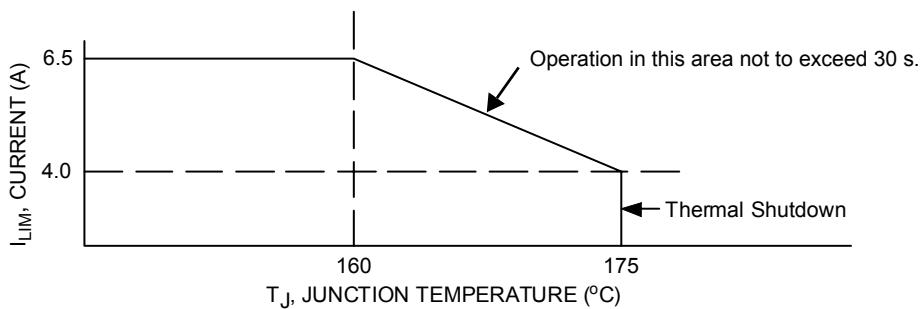
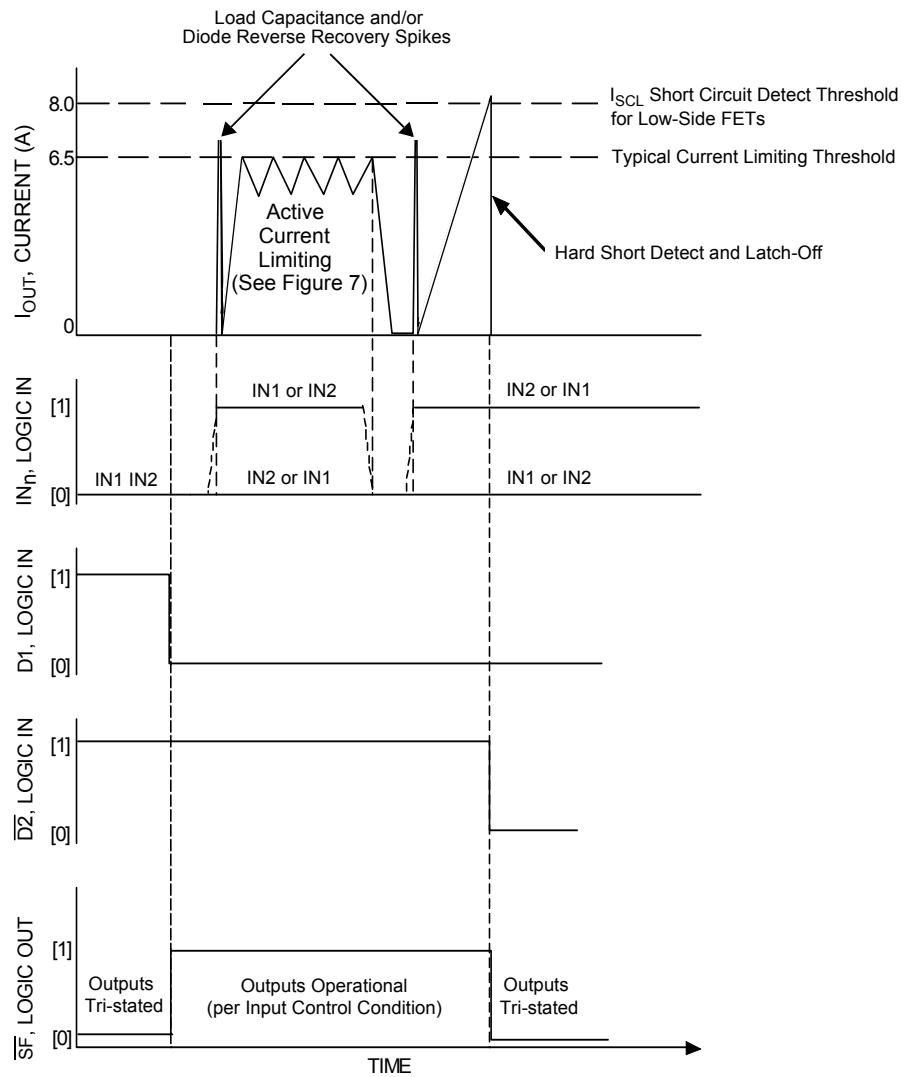

Figure 5. Active Current Limiting Versus Temperature (Typical)
Figure 6. Active Current Limiting Versus Time
27. Increasing currents will become limited at  $I_{\text{LIM}}$ . Hard shorts will breach the  $I_{\text{SCH}}$  or  $I_{\text{SCL}}$  limit, forcing the output into an immediate tri-state latch-OFF. See Figures 6 and 7, page 12. Active current limiting will cause junction temperatures to rise. A junction temperature above  $160^\circ\text{C}$  will cause the active current limiting to progressively “fold-back”, or decrease, to 4.0 A typical at  $175^\circ\text{C}$  where thermal latch-OFF will occur. See Figure 5, page 11.
The current limiting threshold value is dependent upon the device junction temperature. When  $-40^\circ\text{C} \leq T_J \leq 160^\circ\text{C}$ ,  $I_{LIM}$  is between 5.2 A to 7.8 A. When  $T_J$  exceeds  $160^\circ\text{C}$ , the  $I_{LIM}$  current decreases linearly down to 4.0 A typical at  $175^\circ\text{C}$ . Above  $175^\circ\text{C}$  the device overtemperature circuit detects  $T_{LIM}$  and overtemperature shutdown occurs (see Figure 5, page 11). This feature allows the device to remain operational for a longer time but at a regressing output performance level at junction temperatures above  $160^\circ\text{C}$ .